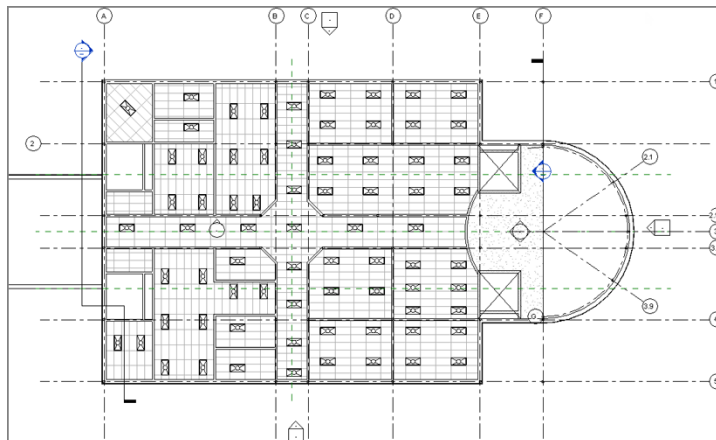

FIGURE 9.48: Adding lights to the rest of the ceilings
10. Copy the light to the locations shown in Figure 9.48.
11. Add lights to the rest of the rooms in the east wing, as shown in Figure 9.48. It's quickest to place a single light horizontally and one vertically, align them to the grids, and then make multiple copies.